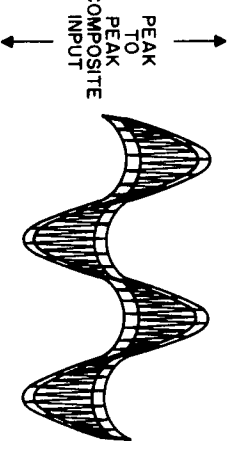

Figure 10. Composite Input To Multiplex Decoder.
- (1) Disconnect the jumper lead going to pin 4A (on AM/FM IF, MPX board) and connect the output of the multiplex generator through a 15k resistor to pin 4A.
- (2) Connect DC VTVM to Test Point 403 (on AM/FM IF, MPX board). Connect the vertical input of the scope to pin 4A.
- (3) Set MPX generator for 19 kHz pilot carrier output only. Adjust pilot level for approximately 120 mV peak-to-peak input at pin 4A.
- (4) Adjust cores of Z401 and Z402 (on AM/FM IF, MPX board) for maximum reading on DC VTVM (2.5 to 4 VDC).
- (5) Connect output of audio generator, set for 1 kHz, to the external modulation input of MPX generator and to the external sync input of an oscilloscope. Adjust audio generator level for 1.2 volts peak-to-peak composite MPX input (10% pilot, 90% audio). See Figure 10. Modulate right channel only. Proceed with Steps (5) through (10) of PREFERRED ALIGNMENT PROCEDURE.
- (6) Reconnect the jumper lead going to pin 4A (on AM/FM IF, MPX board) removed previously.